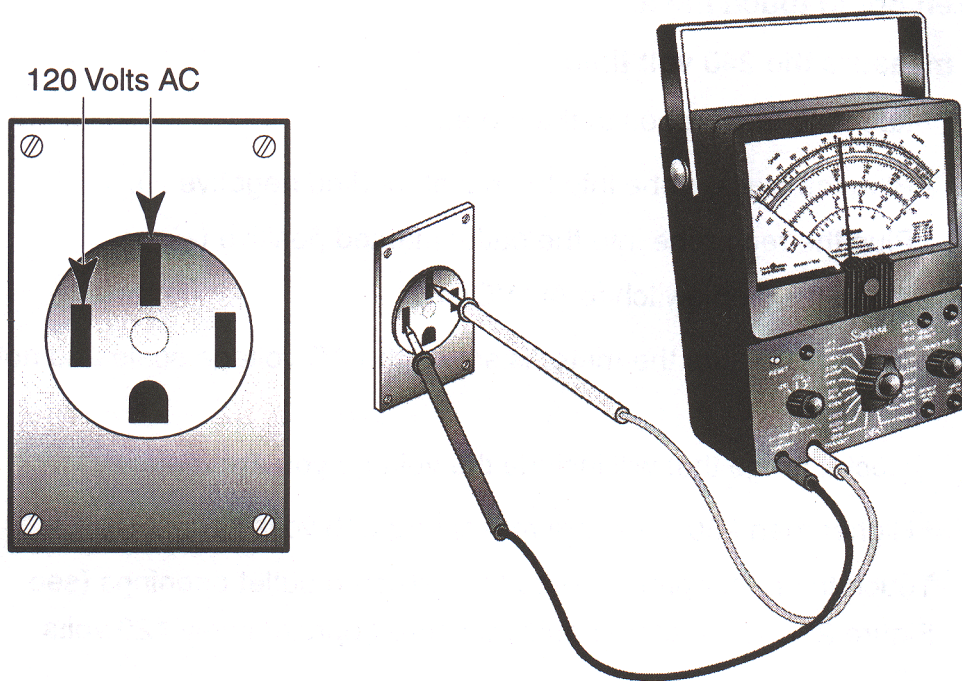

Figure 22
5. Touch the meter probe tips to the indicated outlet openings (see Figure 22). The meter should measure approximately 120 volts AC.